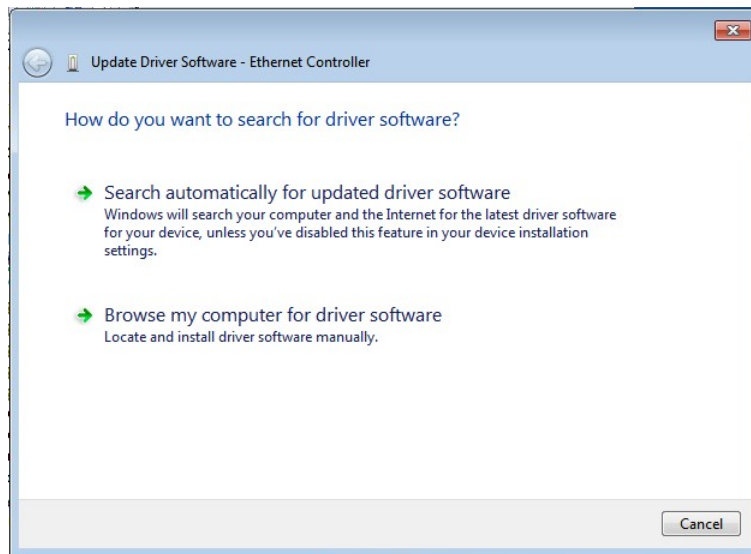

Figure 6-15: Update Driver Software Window
Step 7: The Update Driver Software Window appears (Figure 6-15).